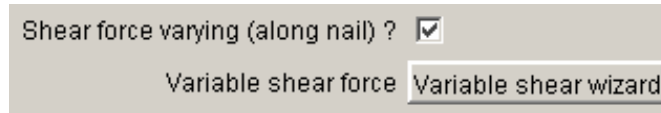

Figure 44: reinforcement dialogue box: tab 1 (nails)
- *Variable shear wizard* (if checkbox "Shear force varying (along nail)" is activated, Figure 44). In this case, refer to the end of this chapter for the definition of the variable shear force;
If calculation mode is (T_{cal} , C_{imp}), and the checkbox "Shear force varying (along nail)" is activated, the button "Variable shear wizard" is displayed (Figure 44). When selecting it, a new dialogue box is opened (Figure 47):